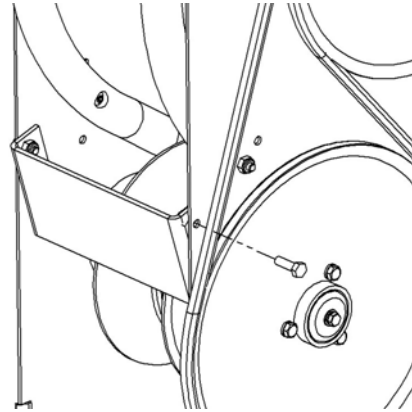

Figure 9, Ball Lift Brace Bolt
3. Remove the upper bolt from both sides of the Ball Lift Brace located on the foul line end of the lift (See figure 9).